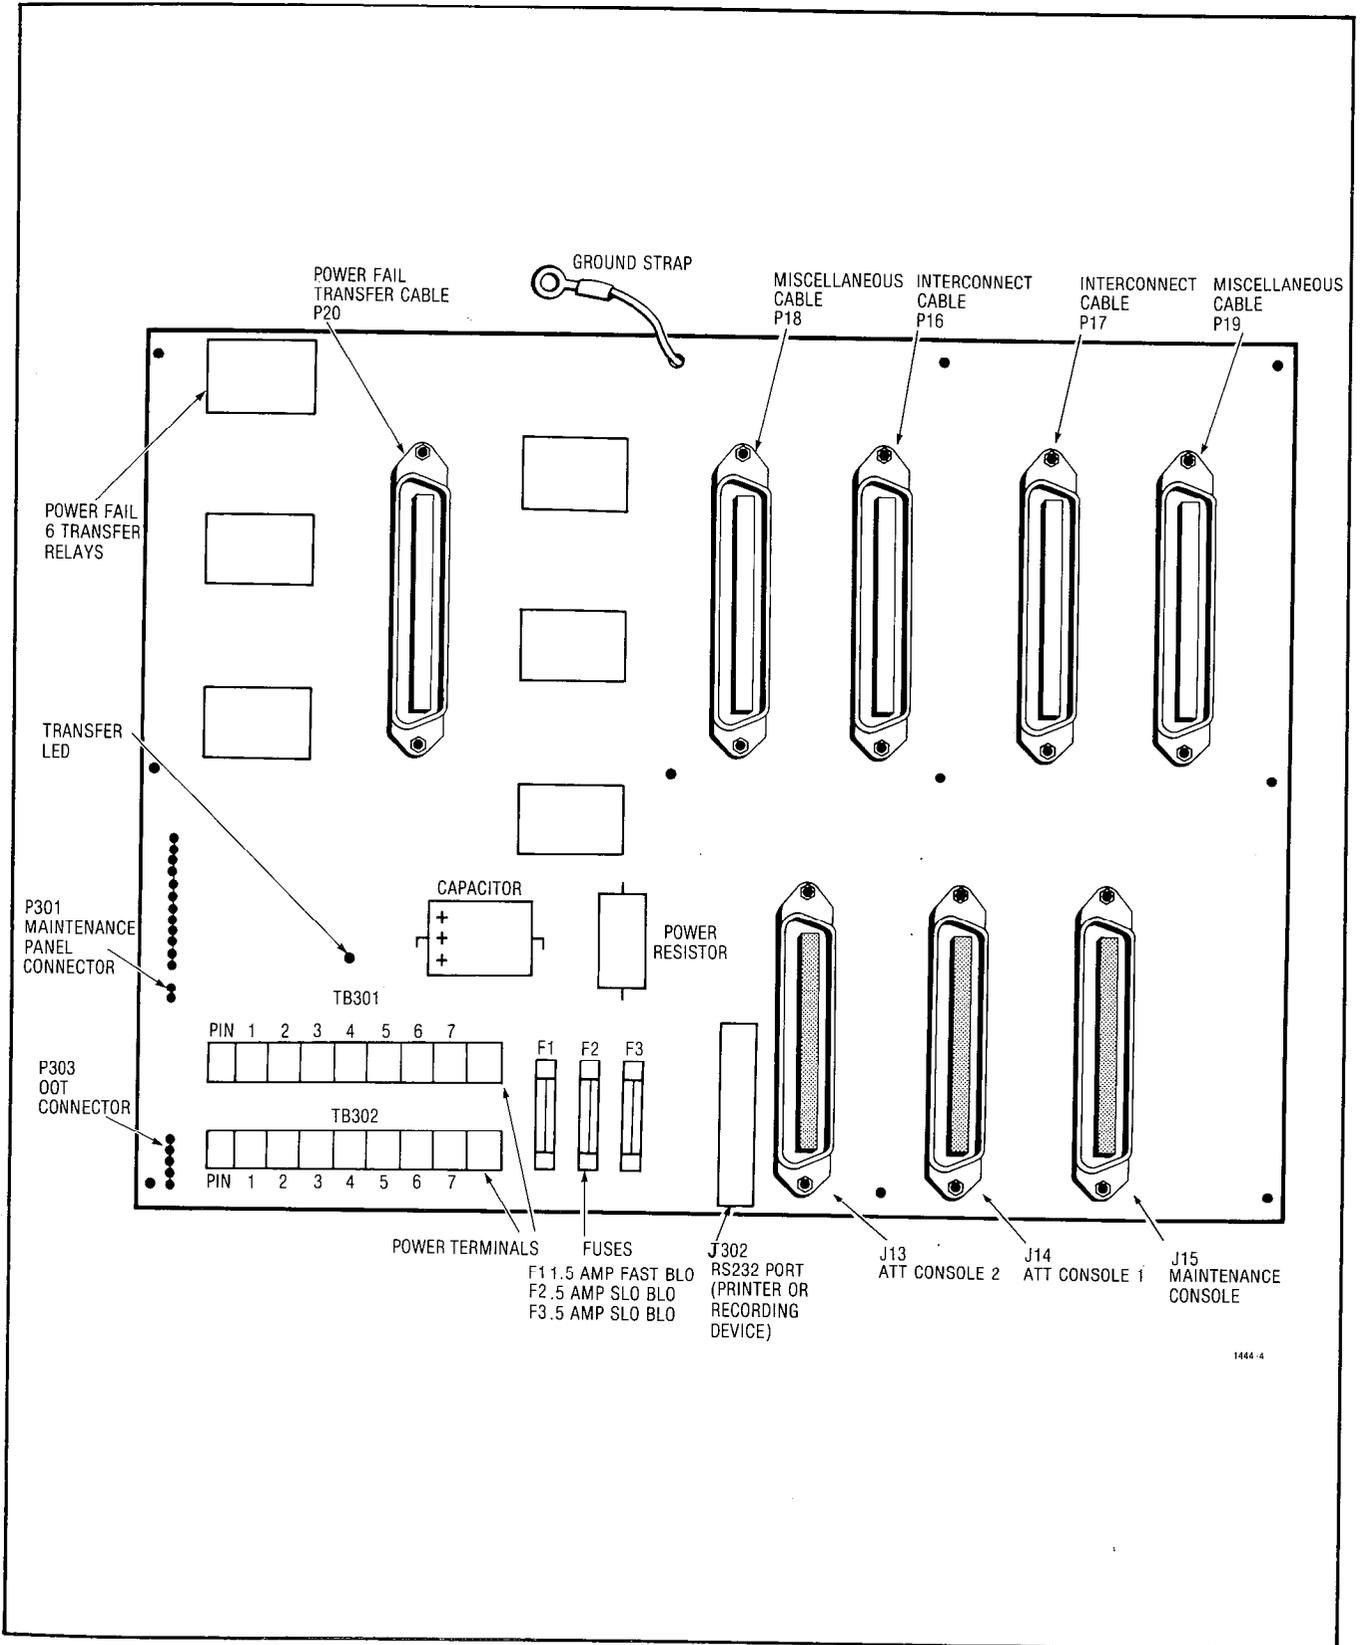

Fig. 2-8 SX-100 Interconnect, Console Interface, Power Fail Transfer Card
2.21 The SX-100 combines the Console Interface, Power Fail Transfer, and Console Interconnect on one card (Fig. 2-8). All plugs on this card perform the same functions as listed in Table 2-7. All power for the board is provided by the two terminal blocks (TB301 and TB302) fed by a cable from the power supply. In the event of a commercial power or equipment failure, up to six CO trunks can be automatically connected to six extensions. In addition, the board has a Transfer LED which will go out when a transfer occurs. There are three fuses for user ringing, user - 48Vdc, and - 48Vdc for the console (F1, F2, F3).